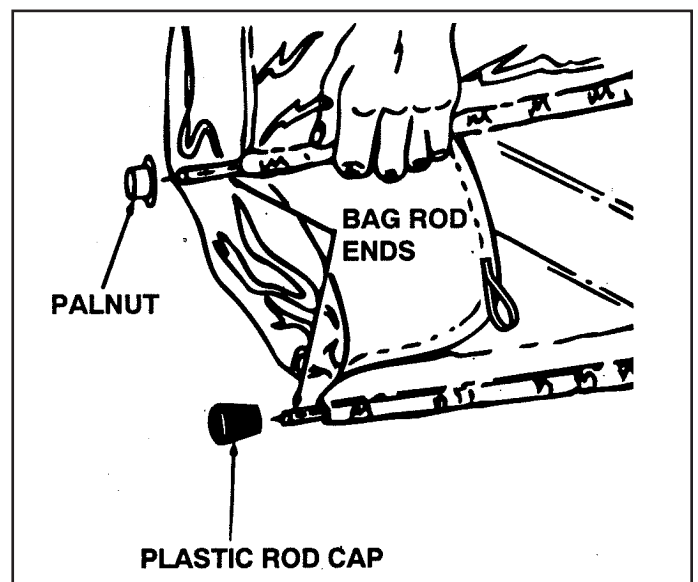

FIGURE 6
9. Assemble the two plastic rod caps to the rod ends of the bottom bag rod. Assemble two Palnuts to the ends of the top bag rod. See figure 6.